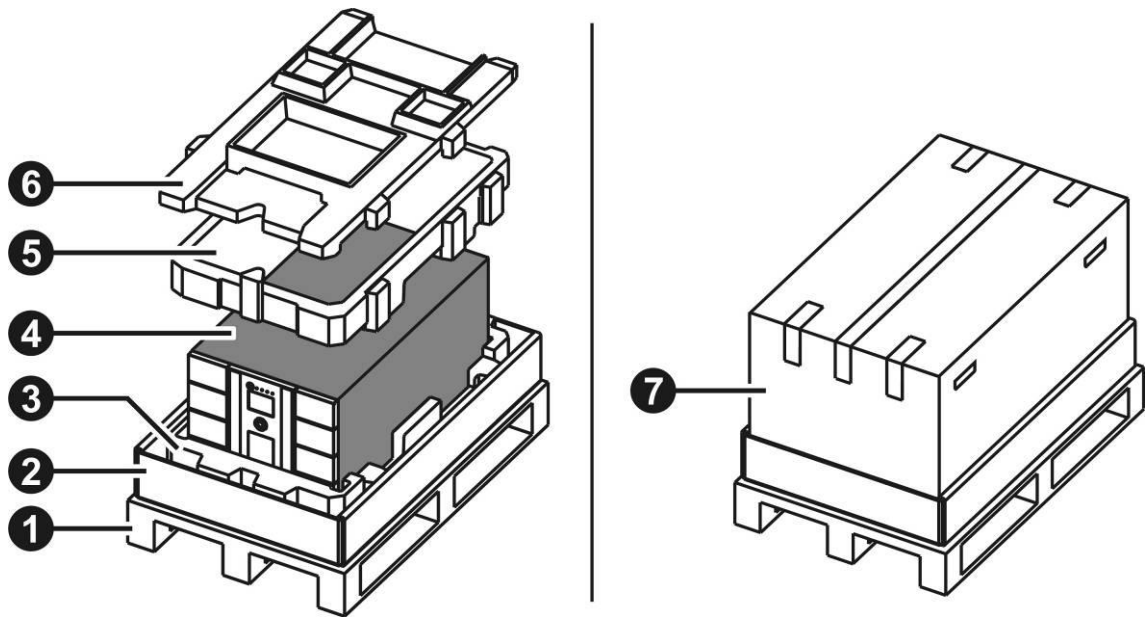

Figure 150 Packaging the library (8U)
- For 8U libraries, see **Figure 150** and **Table 29, Page 162**.